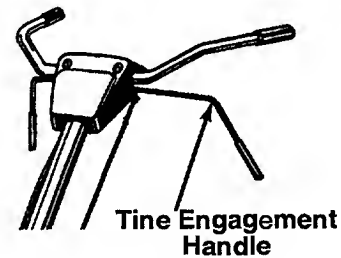

Figure 7
The tine engagement handle is located beneath the tiller handle. See Figure 7. Squeezing the handle up against the tiller handle engages the tines. Release the handle to stop the tines.
2. Make certain the tine engagement handle is in the neutral position (released). See Figure 7.